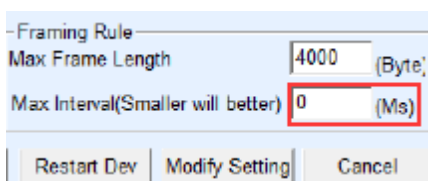

Figure 10 Reduces Packet Interval
- 4) As shown in figure 10, if you need to speed up the corresponding speed of the